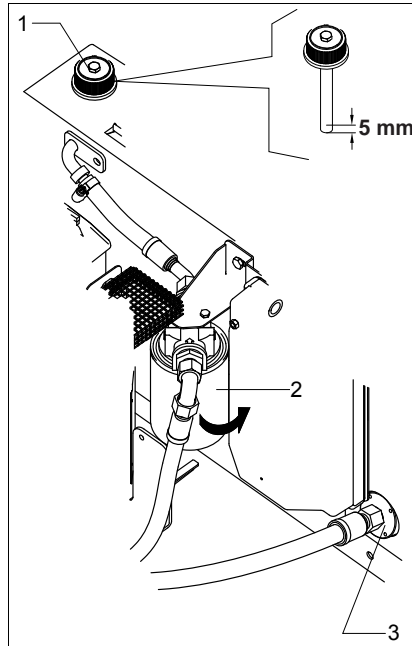

Fig.23 Hydraulic fluid filter
- Unscrew plug with dipstick (Fig. 23/1)
- Turn hydraulic fluid filter (Fig. 23/2) counter-clockwise to loosen it and unscrew